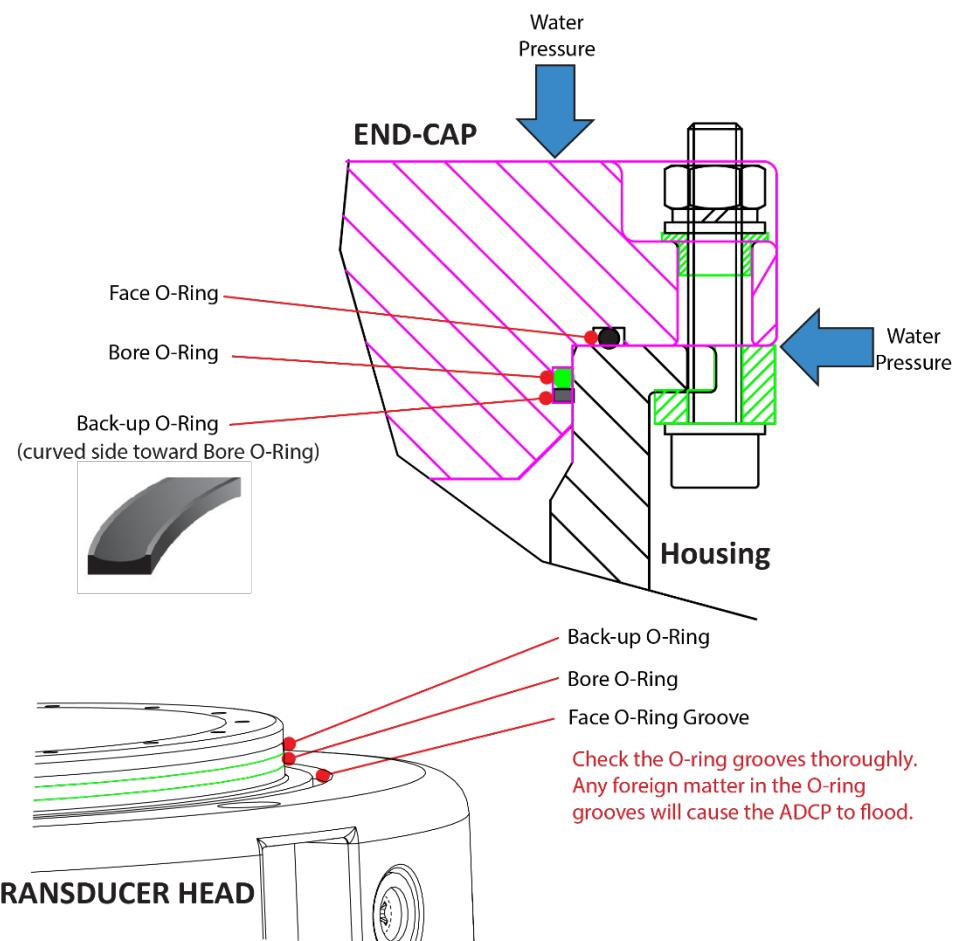

Figure 48. High Pressure O-Ring Detail View
The backup O-ring is installed on 1000, 3000, and 6000 meter high-pressure housing systems in addition to the 2-258 bore O-ring on the transducer head and end-cap assembly. Install the backup O-ring with the cupped side facing the 2-258 bore seal O-ring as shown in Figure 48.
4. Install the backup O-ring first as shown in Figure 48 and then install the 2-258 bore O-ring. The backup O-ring cupped side should be facing the 2-258 bore seal O-ring and be placed on the interior edge of the O-ring groove. Place the face O-Ring into the groove.